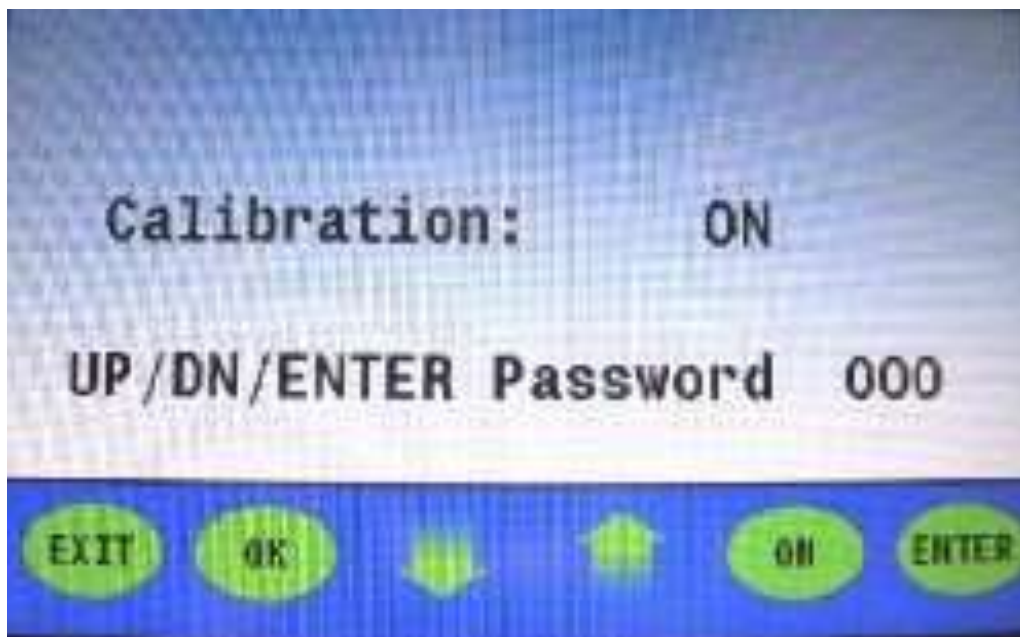

Figure 4
5. Press the up or down arrow once; three [3] zeros [000] will appear on the right-hand side of "password" (figure 4).